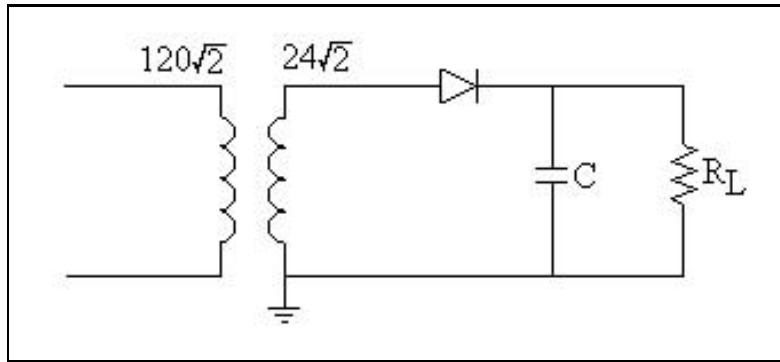

Figure 1.4: DC Power Supply with Load R_L
at V_o increases, the capacitor charges up virtually instantaneously since there is very little resistance in the circuit. After the waveform reaches its peak value and starts to decrease, the voltage on the capacitor is higher than the voltage going into the rectifier. Thus, the diodes will be reverse biased, and no current will flow out of capacitor so it cannot discharge. Thus, the capacitor will be pinned at the peak voltage of the AC signal. Now, if we attach a load resistor R_L across the capacitor, as shown in Fig. 1.4, the capacitor will discharge through R_L with time constant $\tau = R_L C$.
4. Sketch the voltage signals on either side of the transformer, and the signal across the parallel resistor-capacitor versus time for the circuit in Fig. 1.4. Take the signal frequency into the transformer as 60Hz. Calculate the AC ripple for three values of load resistors: $R_L = 5K$, $10K$, $100K$, and take the capacitor to be $2200\mu F$.